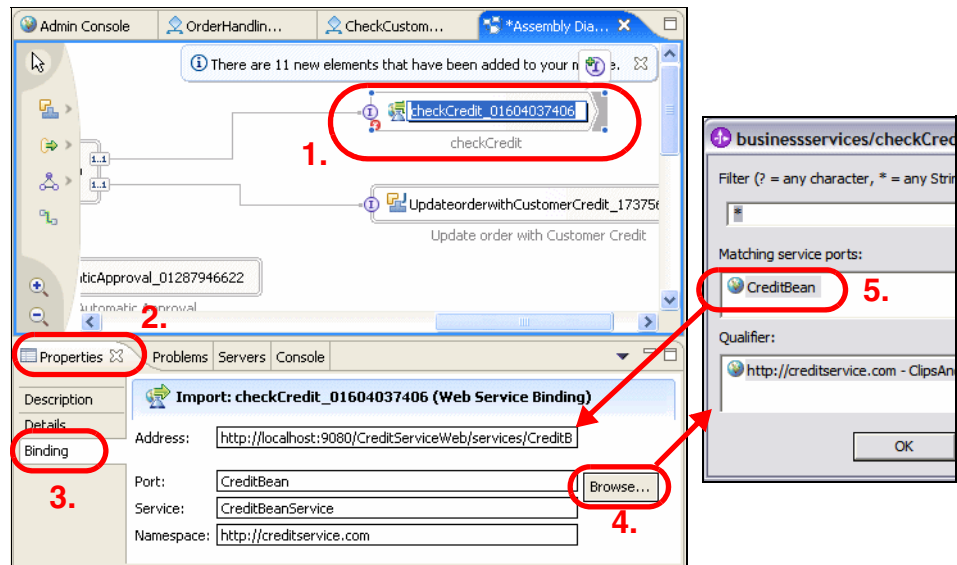

Figure 16-6 Specifying the Web service binding for checkCredit
- ▶ Select the CreditBean and click *OK* (Figure 16-6).